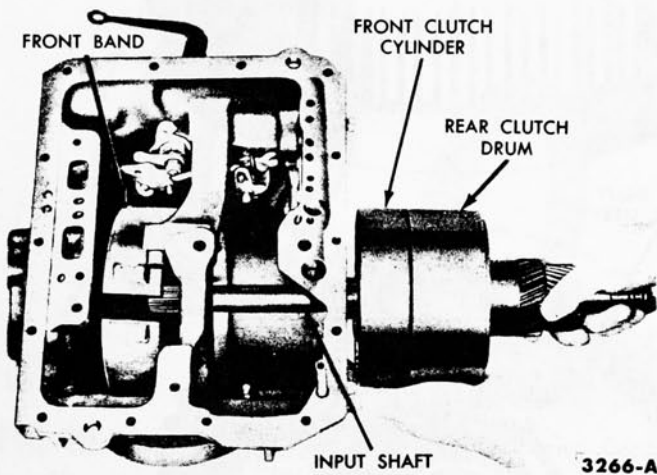

FIG. 6—Input Shaft and Clutch Installation or Removal—PBL Transmission
move the center support, front and rear clutch assemblies as a unit (Fig. 6).
2. Inspect the bushing for scores or wear. If required, replace the bushing as shown in Fig. 6, Part 4-4.
Coat the outer diameter of a new seal with FoMoCo Sealing Compound, or its equivalent, then position the seal in the extension housing counterbore. **The felt side of the seal must be toward the rear.** Drive the seal into place with the tool shown in Fig. 6, Part 4-4, until it is firmly seated in the counterbore.